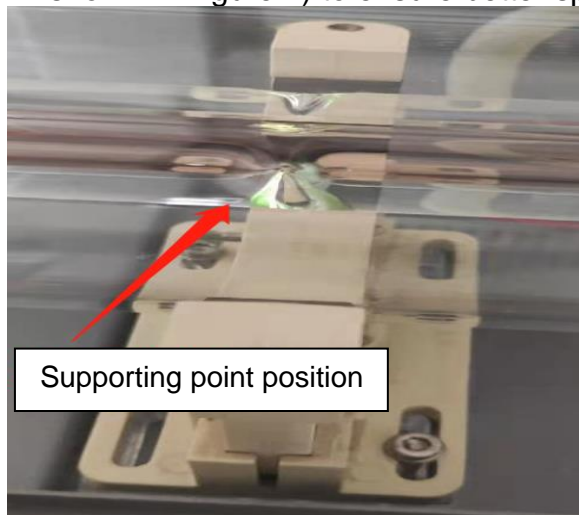
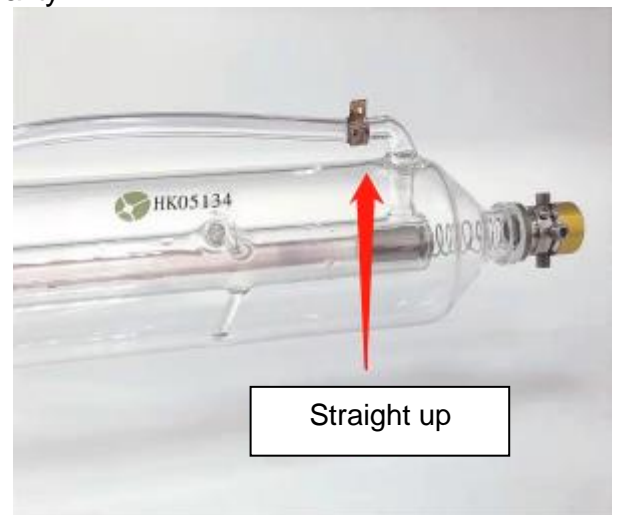

Figure 3 (Supporting point position)
Figure 4 (Straight up)
- a. The distance between two brackets for single tube installation is 1/2 (tube length-50mm), for example: 130-watt tube length is 1700mm, and the distance between the two brackets is roughly  $1/2 \times (1700-50) = 825\text{mm}$ . The position of the bracket is just near the front and back supporting points of the water tube and the discharge tube in the laser tube (see Figure 3). The water output is positioned vertically upwards (as shown in Figure 4) to ensure better spot quality.